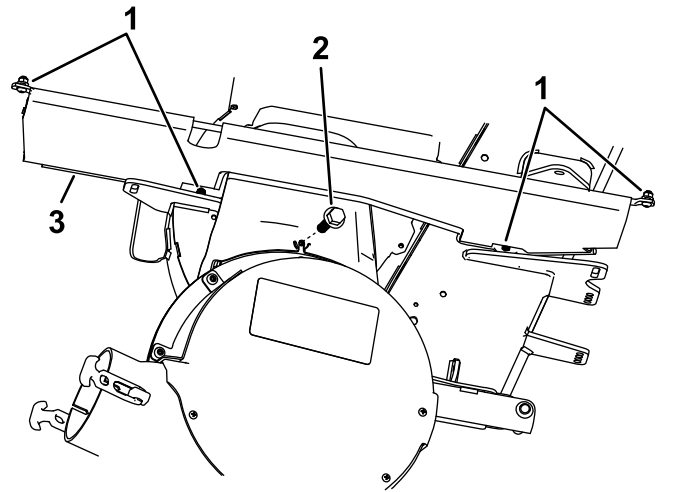

Figure 3
4. Install the new curtain to the frame and the mower deck using the existing hardware (Figure 3).
5. Install the bolt (1/4 x 5/8 inch) into the hole where the knob was removed (Figure 3).